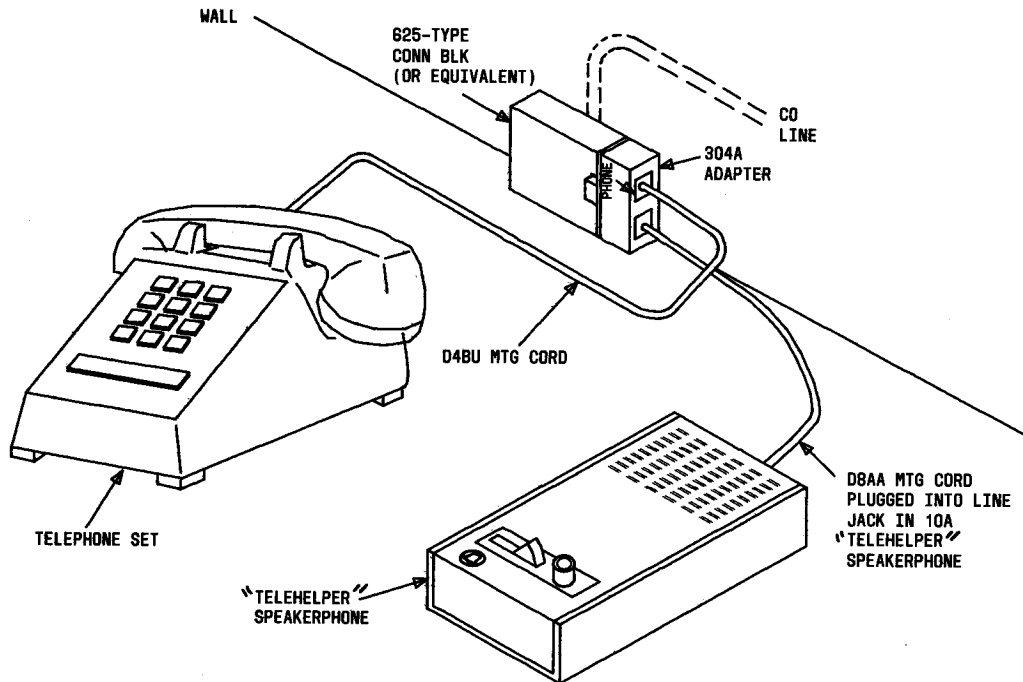

Fig. 7—Optional Installation for Single Line Modular Desk Type Telephone Set With D-180882 Kit of Parts
**B. Optional Installation of Desk Telephone Using 304A Adapter (Fig. 7)**
- Plug the 304A adapter (Fig. 7) into a 625-type connecting block or equivalent.